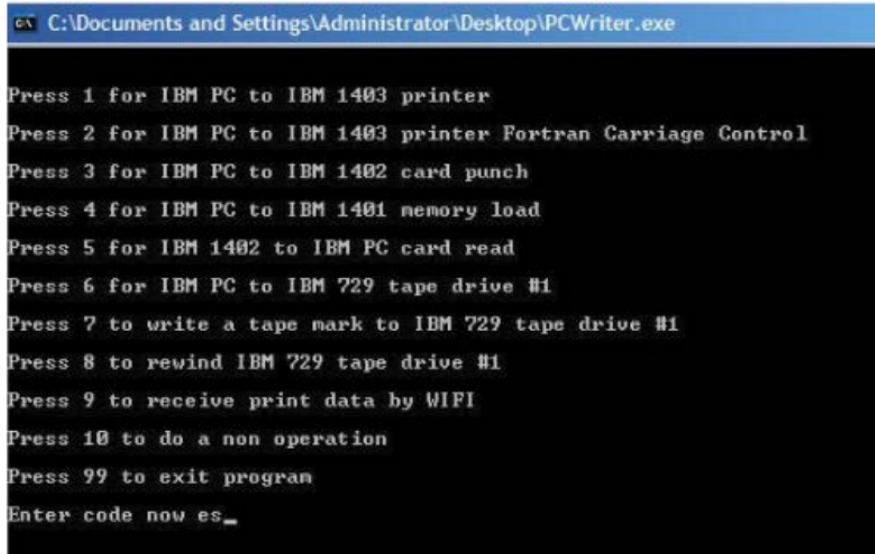
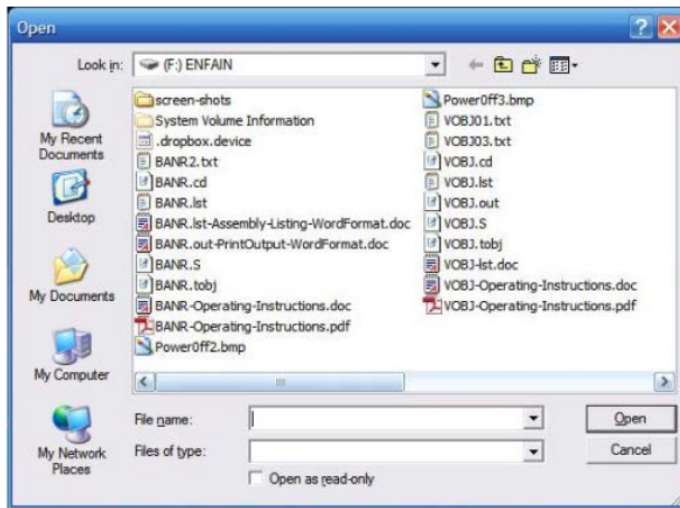

Figure 4: PCWRITE Prompt #2
Figure 5: File Selection Prompt (Showing Thumb Drive)
- 4.6. Reply by typing the character “y”. You do not need to press ENTER. The PC screen should now display the menu shown in Figure 4. There are a several useful functions that the PCWRITE program can perform, involving transfer of data between the IBM PC and the IBM 1401.
- 5.1.1. To punch an object deck, type the digit "3" to prompt #2 (see Figure 4) and press ENTER. The screen should display a File Selection prompt as shown in Figure 5.
- 5.1.3. The PCWRITE and SERVER programs should now begin punching your object deck on the 1402 Punch. When punching is complete, the IBM PC screen will return to the prompt shown in Figure 4. You can continue to use PCWRITE functions.
- 5.2.1. Other PCWRITE Functions shown in Figure 4 will be documented in the future. Some useful functions are:
6.1. If the PCWRITE prompt shown in Figure 4 is active, type "99" and press ENTER to exit the PCWRITE program.